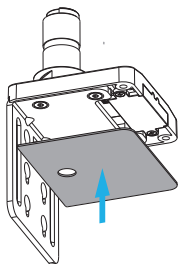

Figure 3
4. Carefully apply the **Base Pad** to the bottom of the **Base Mount**. (Figure 3)